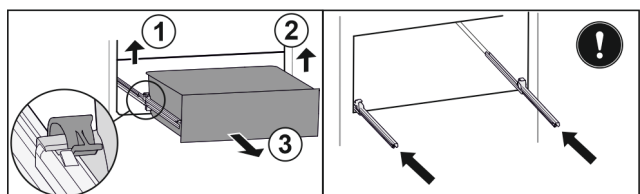

Fig. 33
- ▶ Lift the left clamp and simultaneously pull the drawer on the left to the front Fig. 33 (1).
- ▶ Lift the right clamp and simultaneously pull the drawer on the right to the front Fig. 33 (2).
- ▶ Remove the drawer to the front Fig. 33 (3).